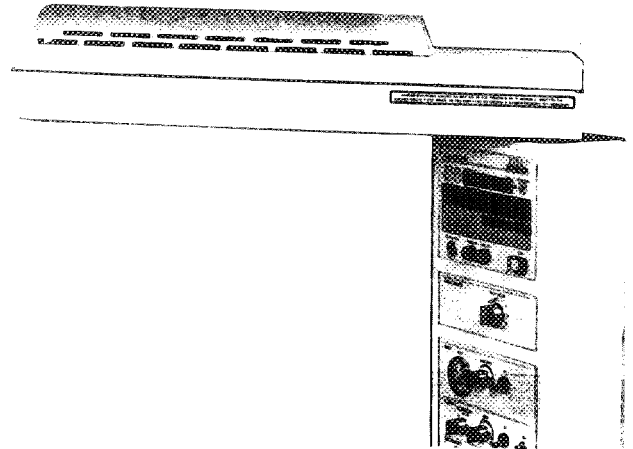

FIGURE 4.9 CHECKING THE WARMER MODULE SWIVEL
5. CHECK THE WARMER MODULE SWIVEL OPERATION (Figure 4.9) by rotating the Warmer Module 90 degrees to the left or right of center. Return to center position.